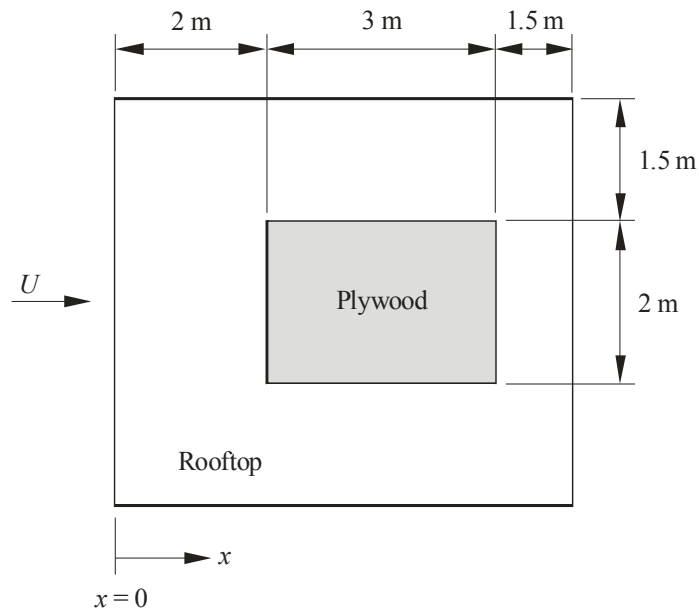

Figure 3
A thin sheet of smooth flat plywood lies flat on a rooftop, as shown in Figure 3 below. The plywood has dimensions $3\text{ m} \times 2\text{ m}$. The weight of the plywood is 90 N . The coefficient of static friction between the roof and the plywood is $\mu_s = 0.12$. Wind at standard atmospheric conditions (use the air properties given on the last page of the exam) blows parallel to the roof and plywood in the direction indicated in Figure 3. A boundary layer forms on the rooftop with its origin ($x = 0$) at the rooftop edge 2 m ahead of the plywood.
- a. Referring to Figure 3, what wind velocity U will generate enough friction to dislodge the plywood from the roof? The thickness of the plywood can be neglected. In arriving at your answer, make use of one of the correlations provided on the last page of the exam. Be sure to justify your choice of correlation.